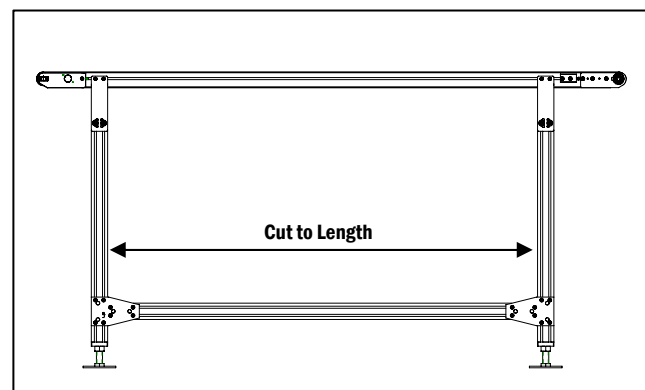

Figure 3
b. Measure the distance between the stands and cut the Cross Tie Extrusion to fit with a saw blade that is appropriate for cutting Aluminum (Figure 3).